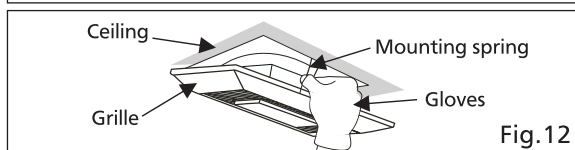

Fig.12
15. Insert the other mounting spring into the slot as shown and mount grille to fan body. (Fig.12)